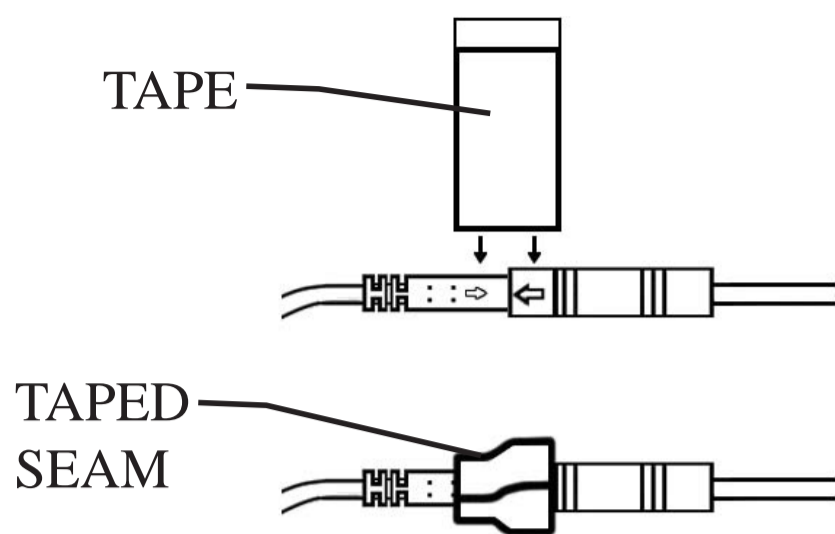

FIGURE 5
3. Wrap the seam on the connection made in step 1 as shown in Figure 5 to better the seal.